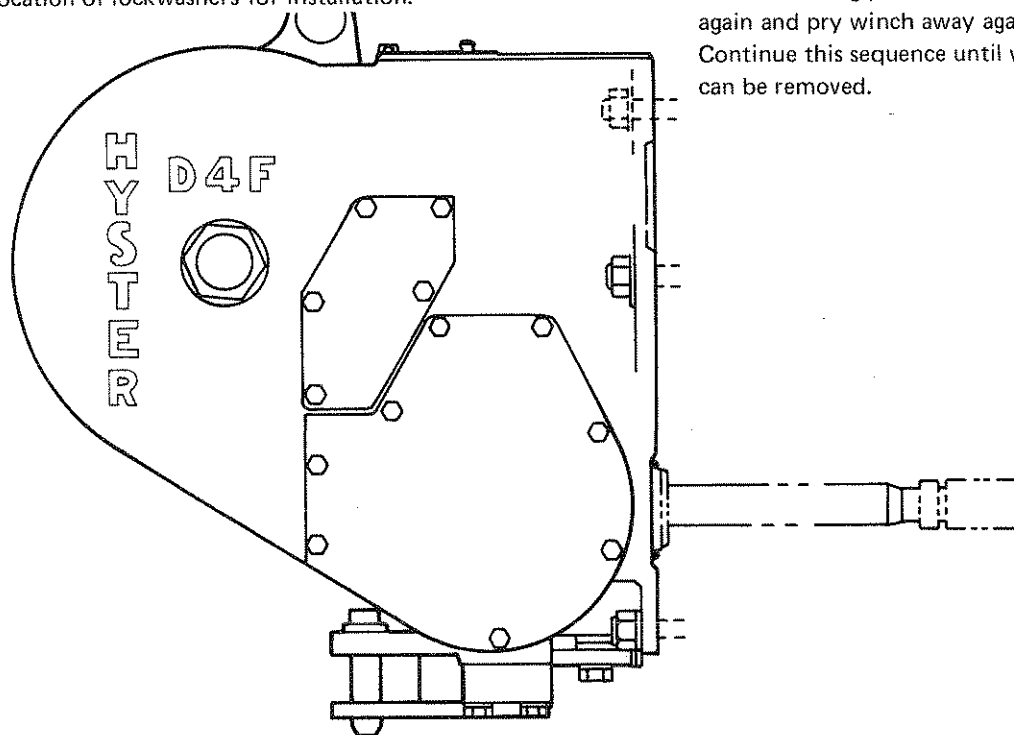

Figure 5-1. Removal of Standard Speed Winch From Tractor.
5-6. Removal of Direct Drive Winch. Removal of the Standard Speed winch is shown in Figure 5-1. Removal of the Lo-Speed winch is shown in Figure 5-2. Make sure that the three control cables between the handling gear and winch are removed before separating the winch from the tractor mounting pad.
5-8. Removal and disassembly of the PTO shaft (Standard Speed) is shown in Figure 5-3. Before removing the PTO shaft assembly, the winch must be removed from the tractor as shown in Figure 5-1.
- a. Remove the winch from the tractor. See Figure 5-1 and 5-2.